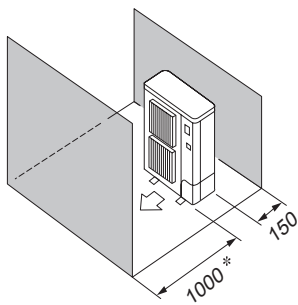

Fig. 4-10
- ⑤ Obstacles at front and rear only (Fig. 4-10)